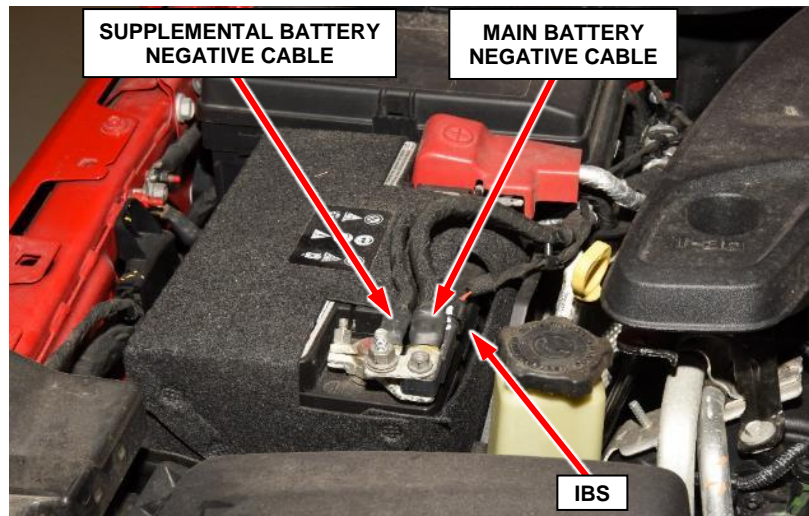

Figure 1 – Battery Negative Cable(s)
b. Disconnect and isolate the supplemental (auxiliary) battery negative cable from the main battery negative cable end. This will disconnect and isolate the auxiliary battery ground (Figure 1).
c. The main battery ground can be disconnected by removing the main battery negative cable from the negative battery cable end, or by disconnecting the Intelligent Battery Sensor (IBS) connector, loosening the negative battery clamp nut and removing the negative battery cable end from the battery post. Either method will disconnect the main battery. Both batteries should be disconnected from the vehicle electrical system (Figure 1).